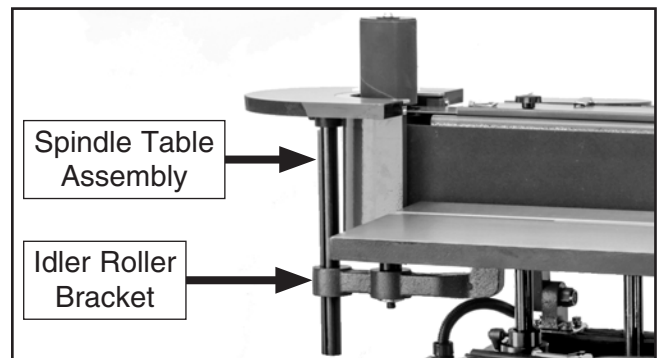

Figure 21. Spindle table assembly installed.
7. Insert spindle table assembly shaft into opening in idler roller bracket (see **Figure 21**).